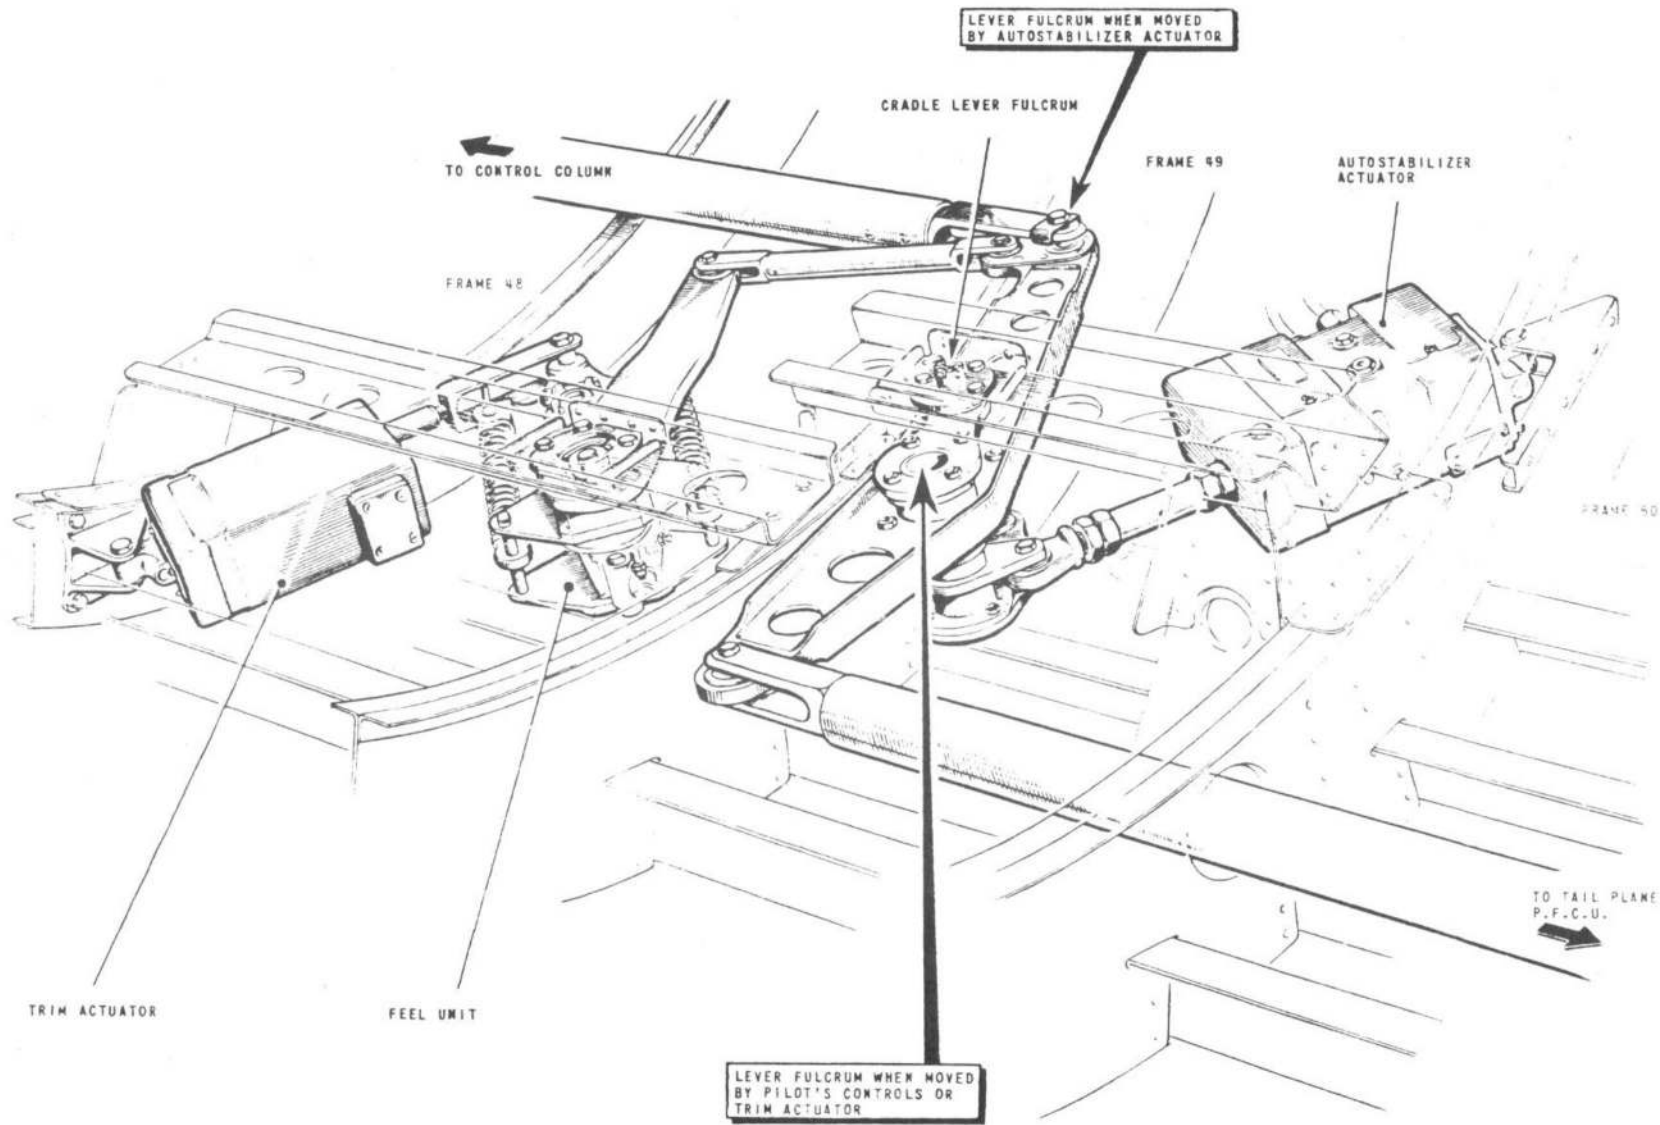

FIG. 2. FEEL UNIT AND AUTOSTABILIZER ACTUATOR - INSTALLATION
(fig. 2)
6. Change of trim is effected by use of the four-position trim switch on the control column handle; e.g. a nose-down attitude is corrected by moving the switch aft to decrease the tail-plane incidence. Operation of the switch energizes a linear actuator connected to the feel unit. The body of the actuator pivots about its mounting bracket on frame 48 and the ram extension is connected to the feel unit body (*fig. 2*). Movement of the actuator ram displaces
7. This unit, supplied with hydraulic pressure from the services system and protected by an accumulator, is linked into the tail-plane control run to operate the control unit at the dictation of amplified electrical signals from the autopilot system. The body of the unit can pivot about its anchorage on frame 50, and the ram extension is connected to one of the twin arms of a cradle lever assembly (*fig. 2*). Linear movement of the ram displaces the cradle lever which pivots on its mounting and moves the main lever, which pivots about its connection to the control run from the cockpit. The effect on the control system differs from that of the trim actuator, in that the control column does not move with control surface movement.